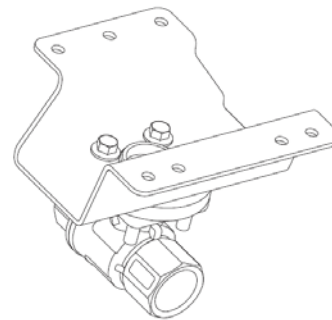

Figure 7: Install Valve Adapter Bracket
3. Install the valve adapter bracket over the thermal barrier and attach the valve adapter bracket to the valve using the four M5 screws and flanged nuts (Figure 7). Recommended torque is 35 to 44 lb-in. (4.0 to 5.0 N·m).